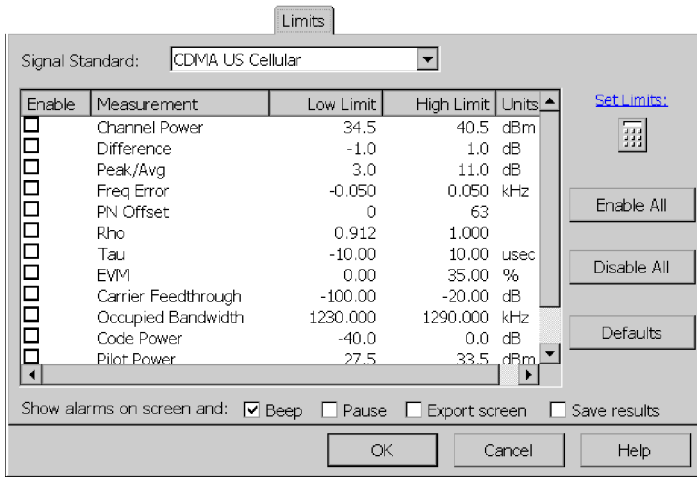

Figure 3-65: Enabling limit testing
2. Tap the **Limits** tab. See Figure 3-65.